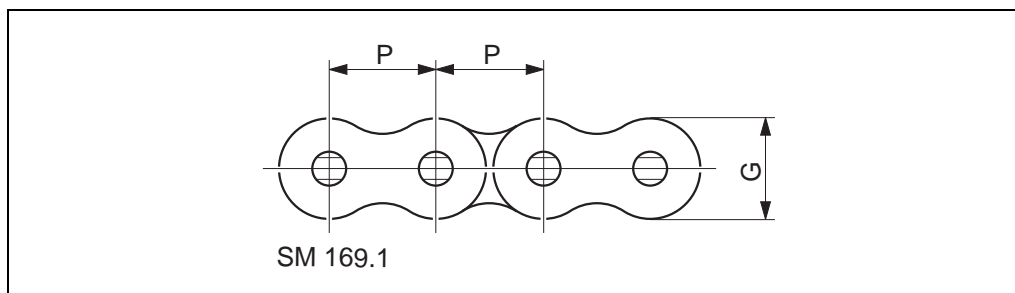

Figure 6.25 Measuring positions
- Measure the height of the chain link plates, dimension G in figure 6.25. Max wear is 5%. Measure the original height where the chain is not worn as a comparison.